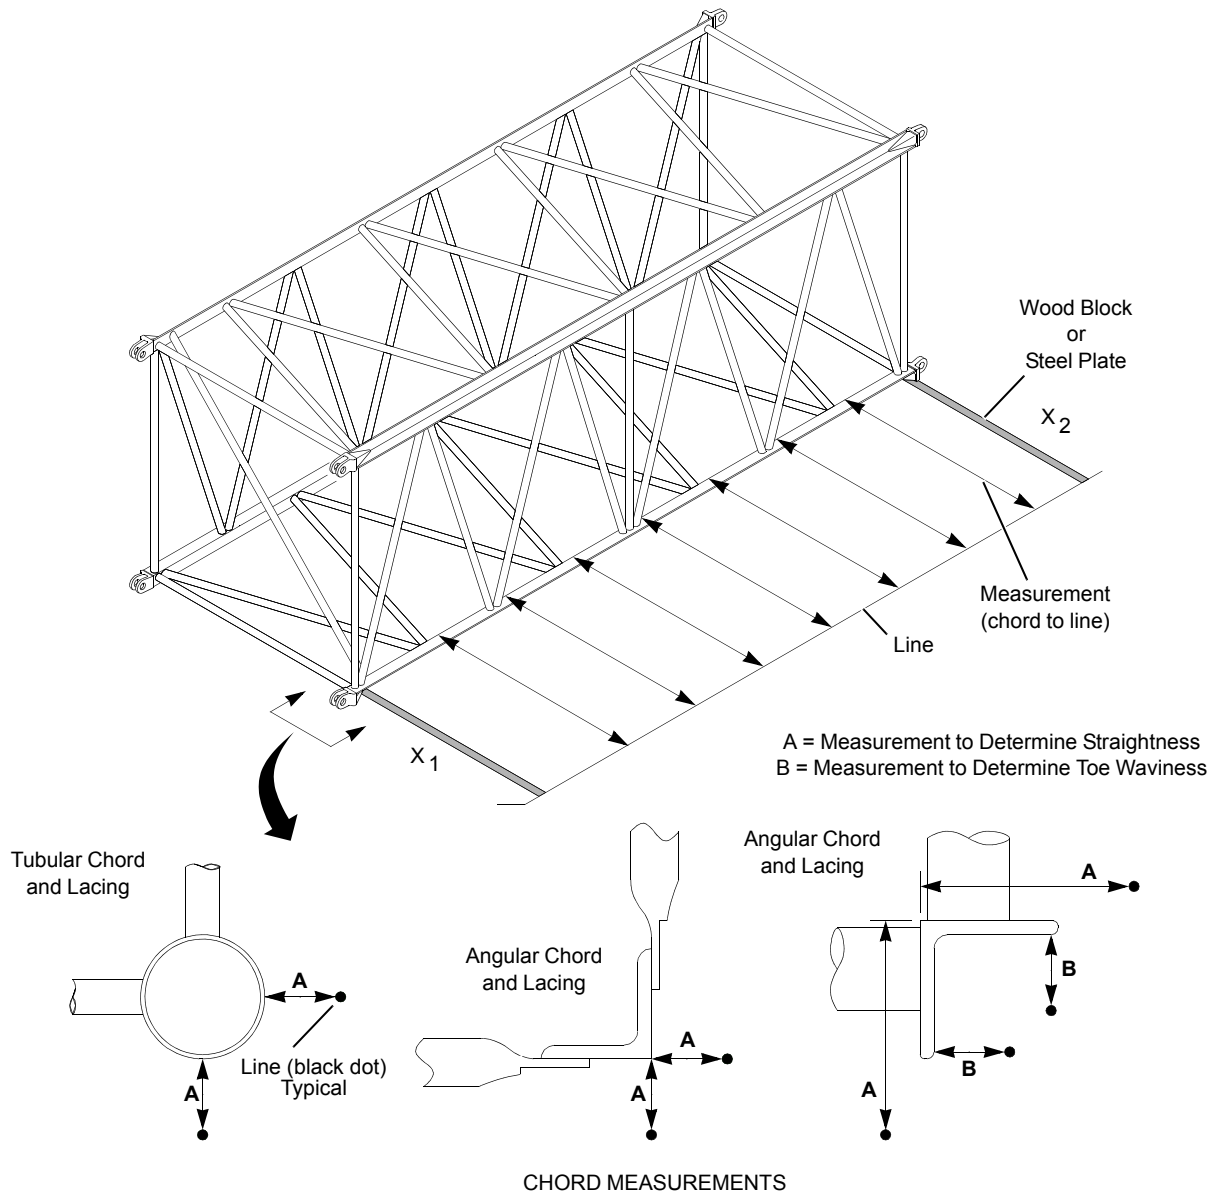

FIGURE 6
Refer to Figure 6.
5. Measure the distance from the chord (on either side of lacing intersection) to the line as shown in Figure 6.